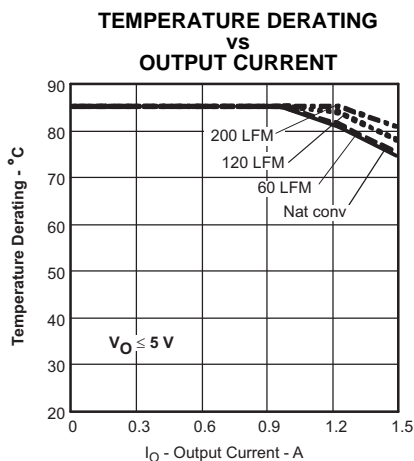
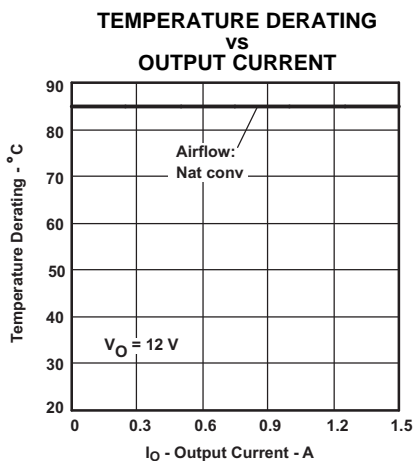

Figure 8.
Figure 9.
- (2) The temperature derating curves represent the conditions at which internal components are at or below the manufacturer's maximum operating temperatures. Derating limits apply to modules soldered directly to a 100-mm x 100-mm, double-sided PCB with 2 oz. copper. For surface mount packages, multiple vias (plated through holes) are required to add thermal paths around the power pins. Please refer to the mechanical specification for more information. Applies to Figure 8 and Figure 9.